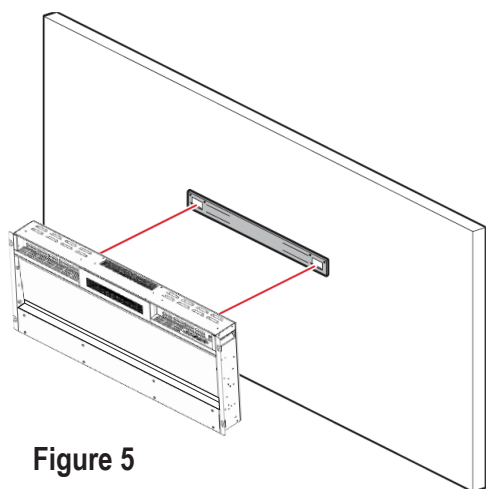
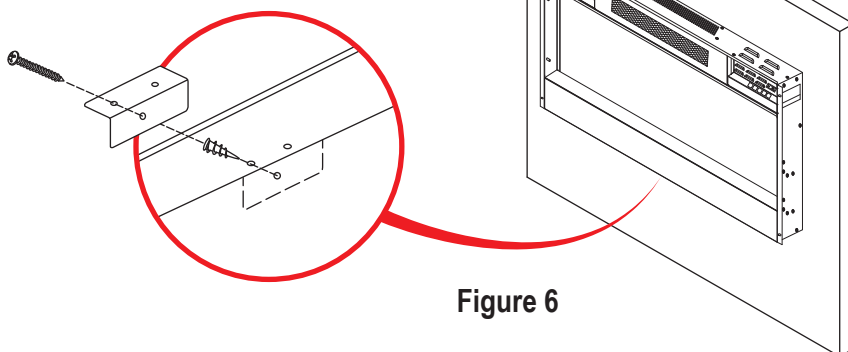

Figure 5
Figure 6
- G. Carefully hang the fireplace on the mounting bracket, ensuring the bracket and heater are firmly engaged. [Figure 5]
- H. Align Metal Bracket (D) with the installation holes on the underside of the fireplace. Use a pencil to mark the location where the bracket will install onto the wall. Drill a hole in the marked location.
- I. Insert one Drywall Anchor (F) into the hole and secure Metal Bracket (D) to the wall using one M4 x 30mm Screw (G). [Figure 6]